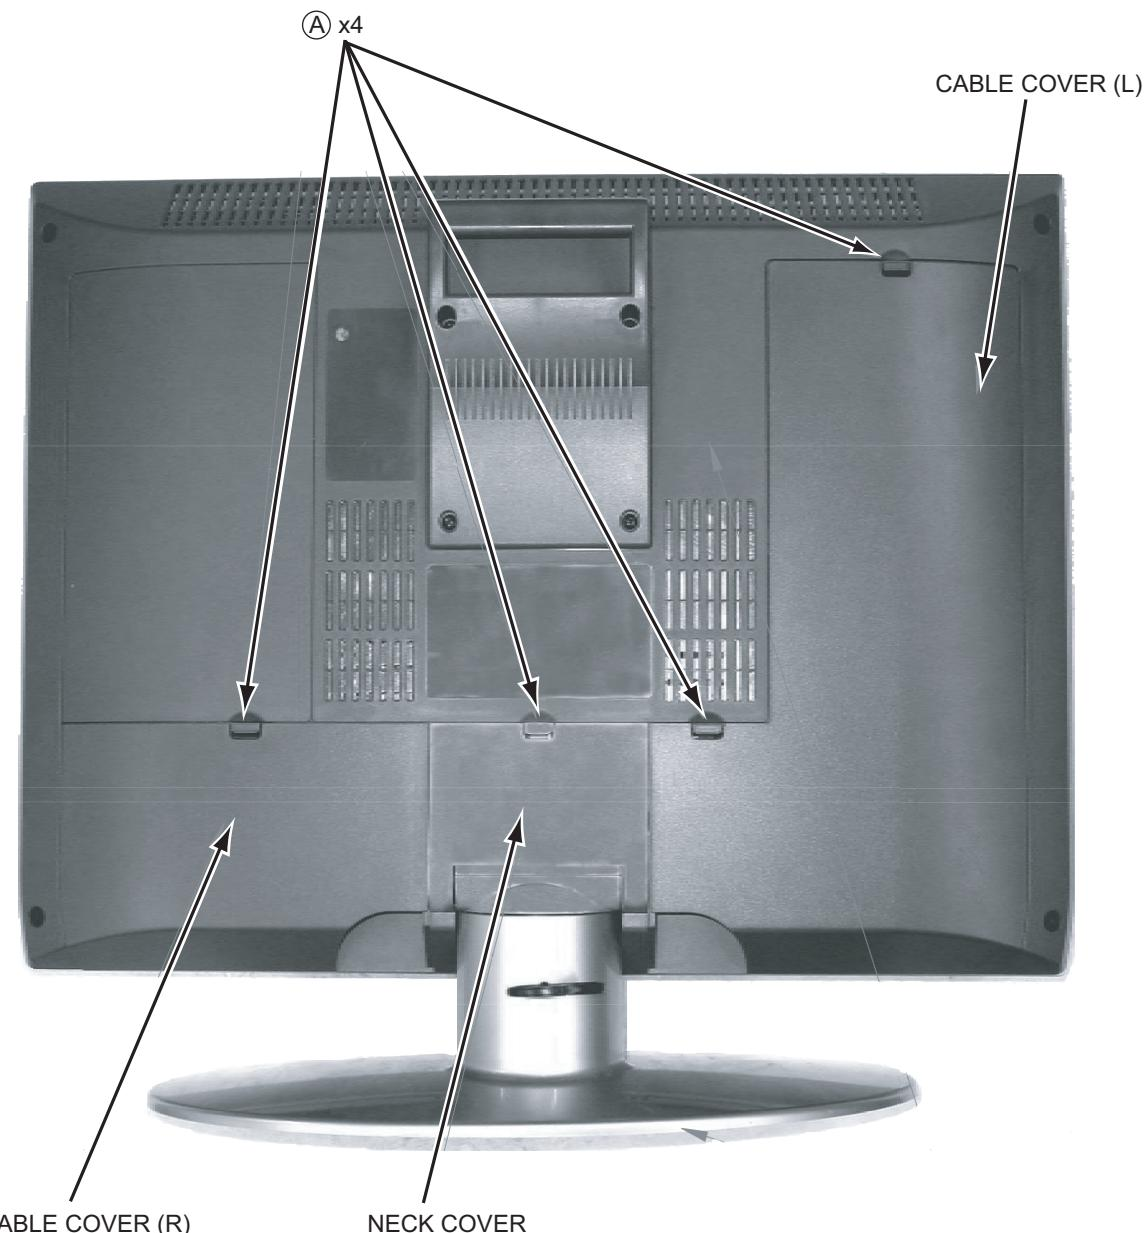

Fig.1
3.1.1 REMOVING THE CABLE COVER (L/R) AND NECK COVER (Fig.1)
- (1) Press the [MUTING] key and the [DISPLAY] key simultaneously, and the FACTORY MODE screen Fig.1 will be displayed.
- (2) The FIRMWARE VERSION is displayed in the upperleft on the FACTORY MODE screen.
- (3) Press the [POWER] key or the [BACK] key to exit the FACTORY MODE.